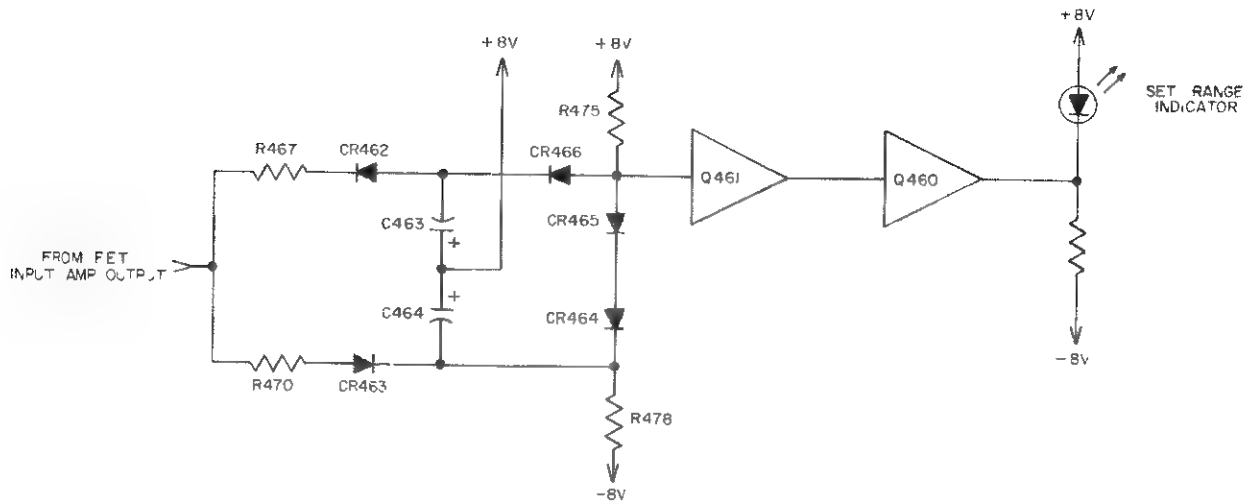

Figure 8. Incorrect Amplitude Detector
4.3 INCORRECT AMPLITUDE DETECTOR (see figure 8)